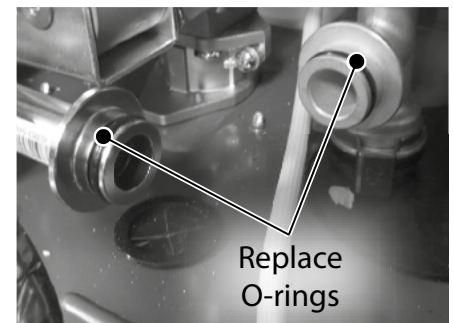

Figure 7 - Replace exposed O-rings
24 Locate the two (2) O-rings on the exposed water pipe connections as shown in Figure 7 and remove them. Dispose of O-rings properly.